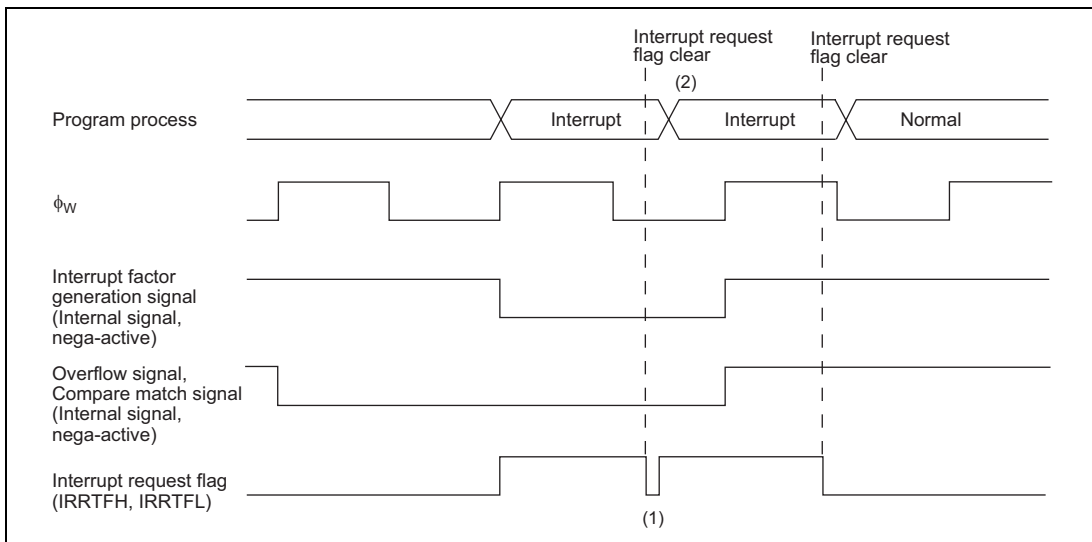

Figure 9.7 Clear Interrupt Request Flag when Interrupt Factor Generation Signal is Valid
When $\phi_w/4$ is selected as the internal clock, “Interrupt factor generation signal” will be operated with ϕ_w and the signal will be outputted with ϕ_w width. And, “Overflow signal” and “Compare match signal” are controlled with 2 cycles of ϕ_w signals. Those signals are outputted with 2 cycles width of ϕ_w (figure 9.7)
In active (high-speed, medium-speed) mode, even if you cleared interrupt request flag during the term of validity of “Interrupt factor generation signal”, same interrupt request flag is set. (figure 9.7 (1)) And, you cannot be cleared timer overflow flag and compare match flag during the term of validity of “Overflow signal” and “Compare match signal”.
For interrupt request flag is set right after interrupt request is cleared, interrupt process to one time timer FH, timer FL interrupt might be repeated. (figure 9.7 (2)) Therefore, to definitely clear interrupt request flag in active (high-speed, medium-speed) mode, clear should be processed after the time that calculated with below (1) formula. And, to definitely clear timer overflow flag and compare match flag, clear should be processed after read timer control status register F (TCSRFB) after the time that calculated with below (1) formula. For ST of (1) formula, please substitute the longest number of execution states in used instruction. (10 states of RTE instruction when MULXU, DIVXU instruction is not used, 14 states when MULXU, DIVXU instruction is used) In subactive mode, there are not limitation for interrupt request flag, timer overflow flag, and compare match flag clear.